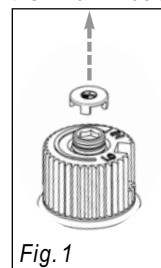

Fig. 1
12. Remove the black protection cap from the hi-low knob (Fig.1) by hand.